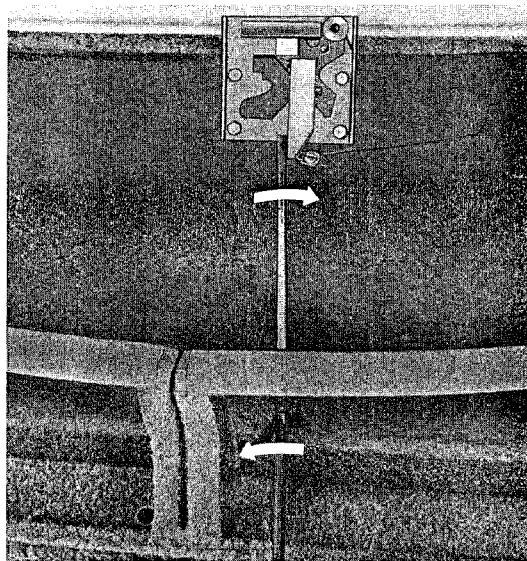

Fig. 18
2. Using a rigid steel rod, release the catch as shown in Fig. 18. (Fig. 18 shows the operation as seen from the engine compartment, engine removed.)